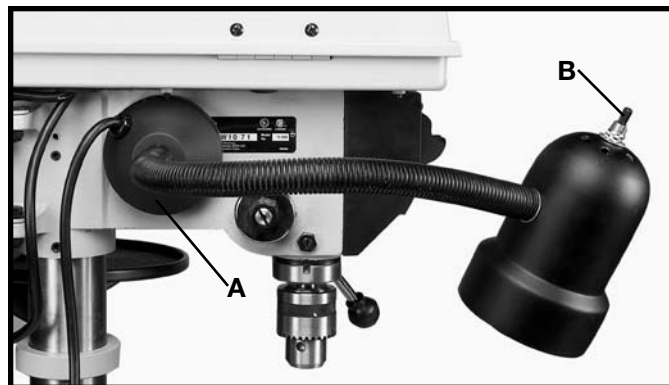

Fig. 20
20. Place the magnetic base lamp (A) Fig. 20, on the left side of the drill press head.
The magnetic base lamp operates independently from the drill press. To turn the lamp “ON” and “OFF”, rotate switch (B) Fig. 20.